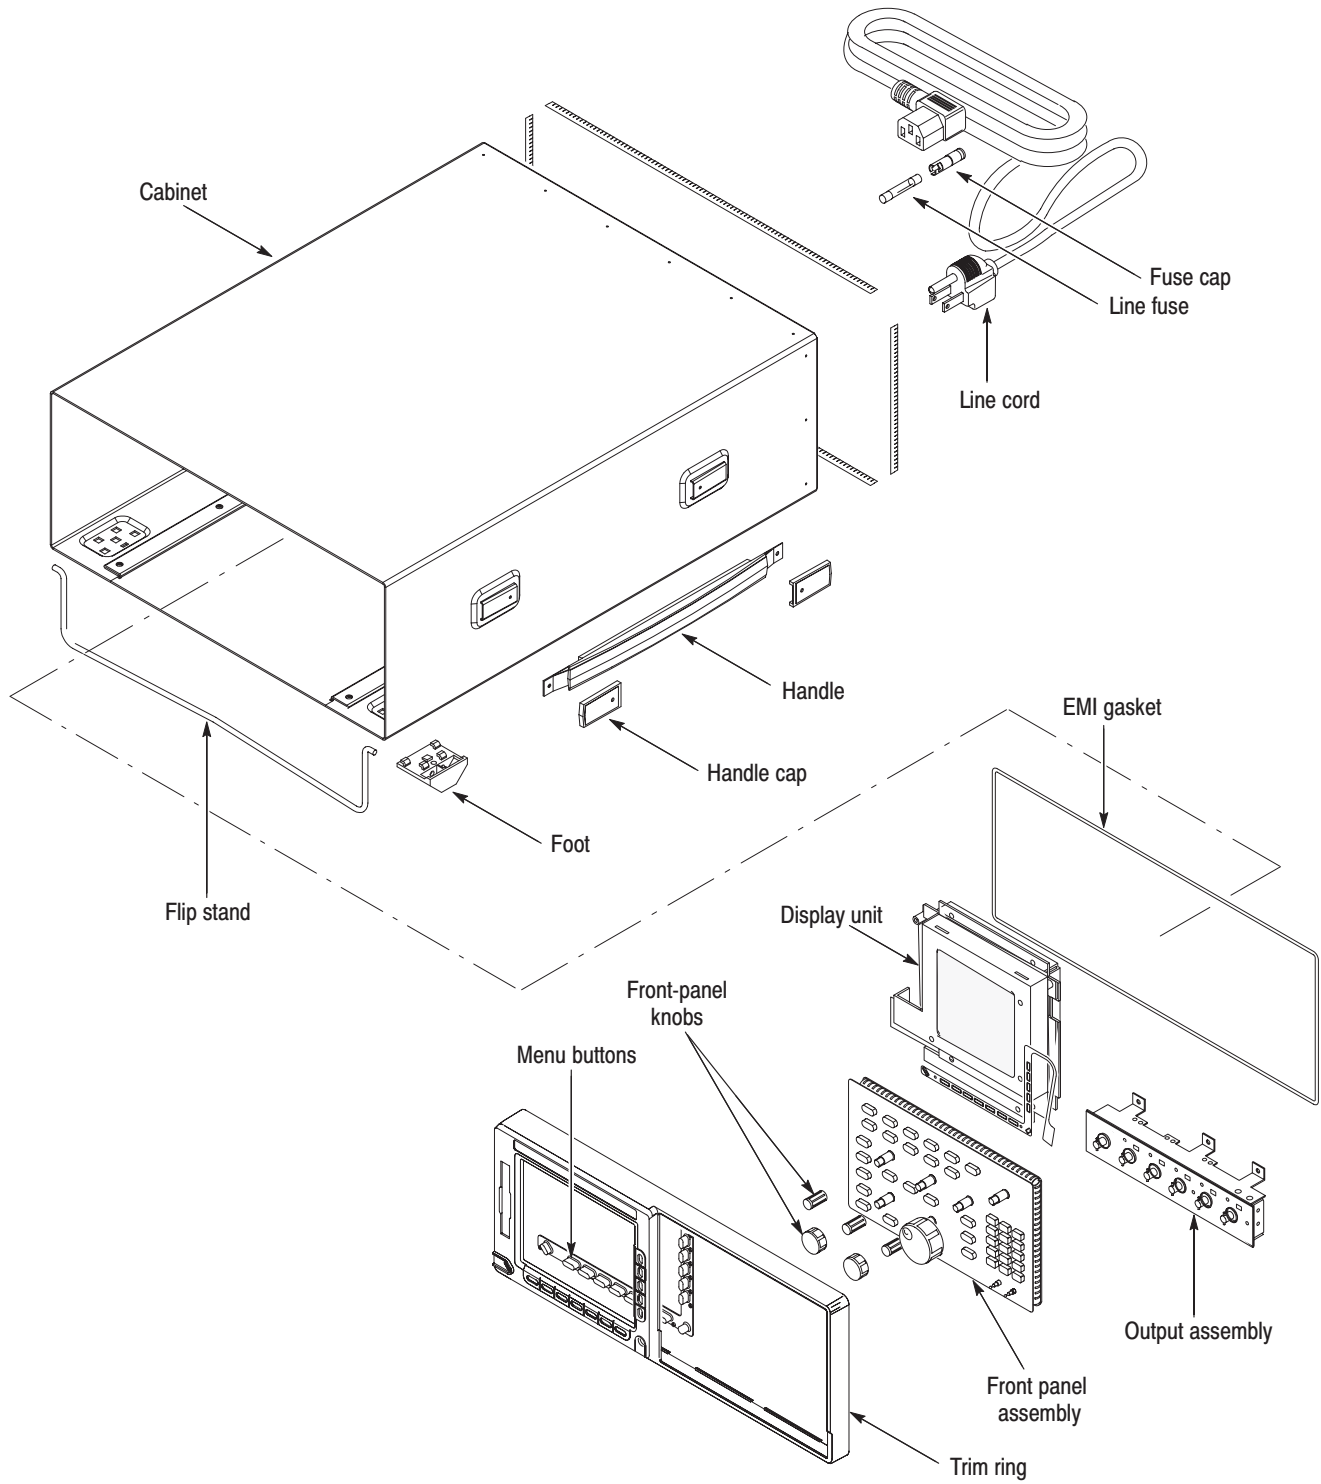

Figure 6-2: External modules
You will need a flat-blade screwdriver (Item 4). Locate the line fuse and line cord (see Figure 6-2).
1. Locate the modules to be removed (see Figure 6-2 on page 6-12).